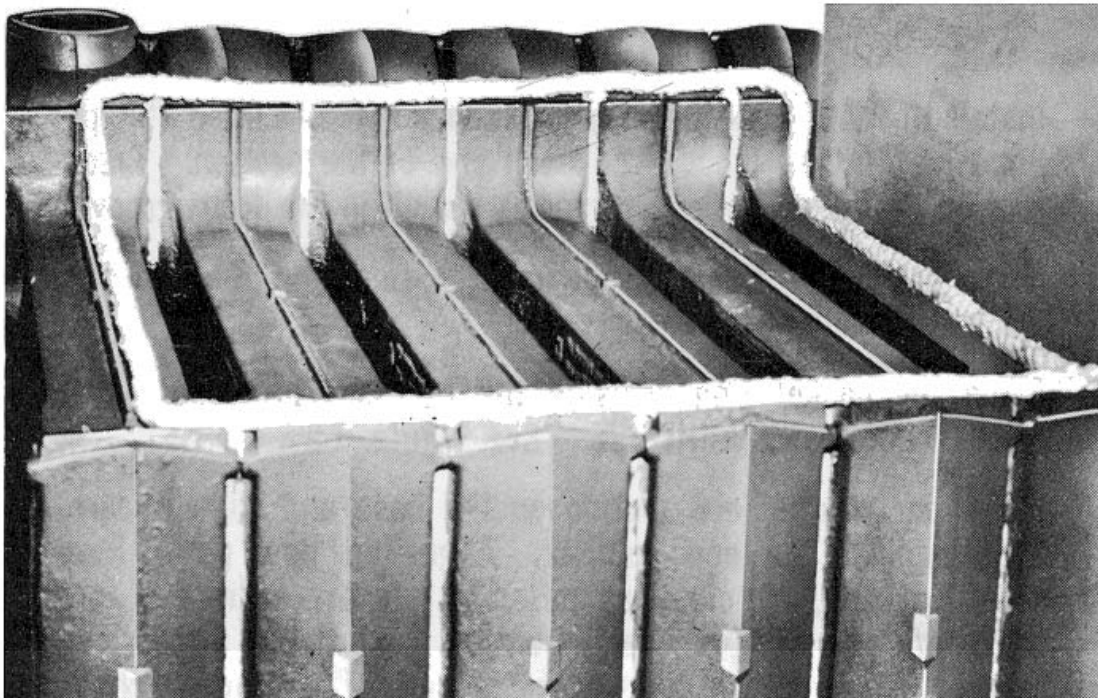

Figure 4.1: Applying Flue Collector Hi Temp Rope Gasket
2. Install Hi Temp Rope for **each** collector section as shown in Figure 4.1. The rope provides the seal to prevent flue gases from leaking from the collector. Make certain that the rope is well under the bottom edges of each flue collector section in order to obtain a tight seal.